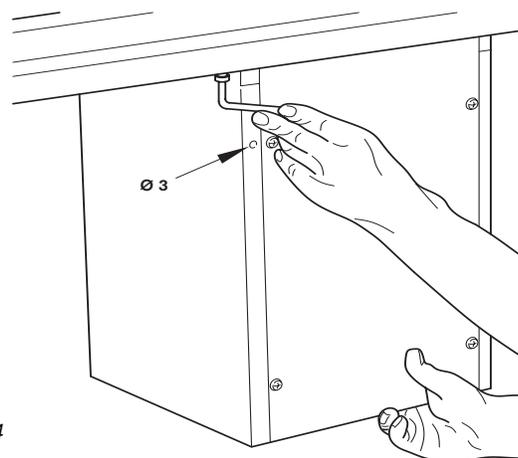

Figure 14
- 5 For EQ2/U units with a  $B_L = 160\text{mm}$ , fasten the pneumatic hose to the guard using a 3mm diameter hole and a commercial hose clamp, Fig. 14. This will prevent damage to the hose caused by the operation of the toothed belts.